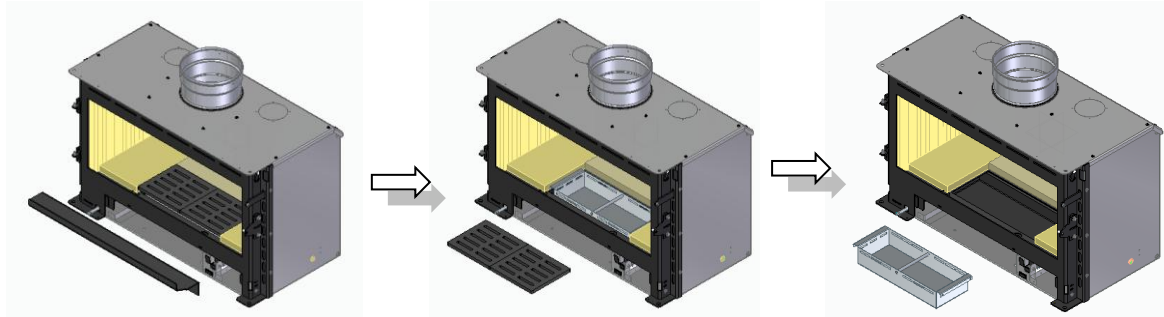

Figure 44 – Accessory Removal
b. Then remove the ash deflector, ash pan and ash drawer, see Figure 44.